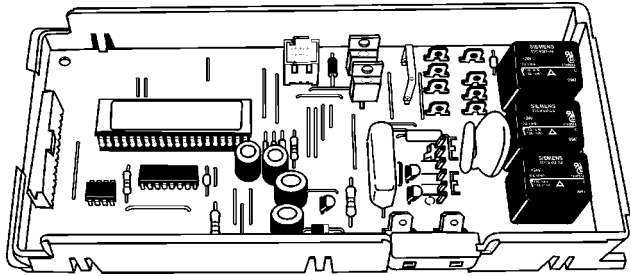

Fig. 3-2
1. Disconnect the ribbon connector and the wiring harness connectors from the electronic control board. (Fig. 3-2)